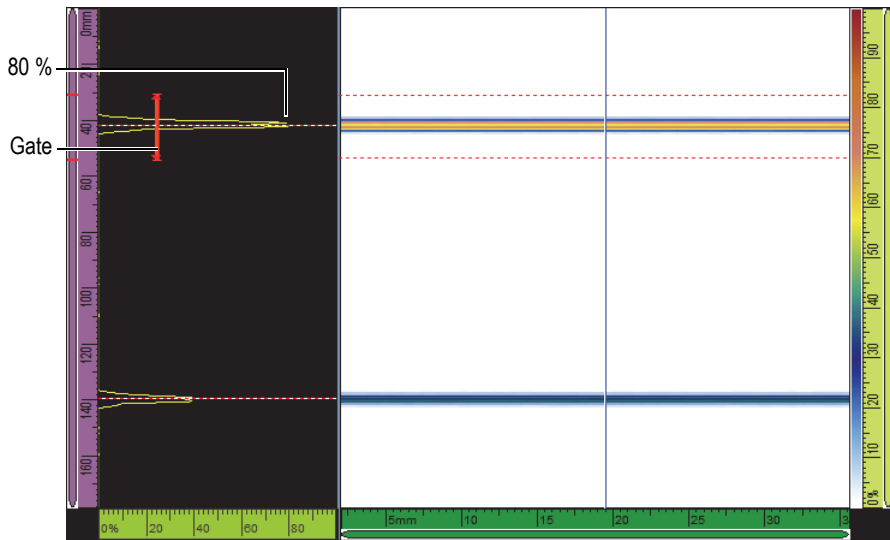

Figure 5-3 Example of reflector signals in a linear scan
- b) Set the **Gain** so that the amplitude of the first signal reaches about 80 % of the full-screen height of the A-scan (see Figure 5-3 on page 115).
- c) Set the **Start** and **Range** parameters until the two signals from the two reflectors on the A-scan are visible (see the example in Figure 5-3 on page 115).
- enough to contain the complete width of the signal (see Figure 5-3 on page 115).